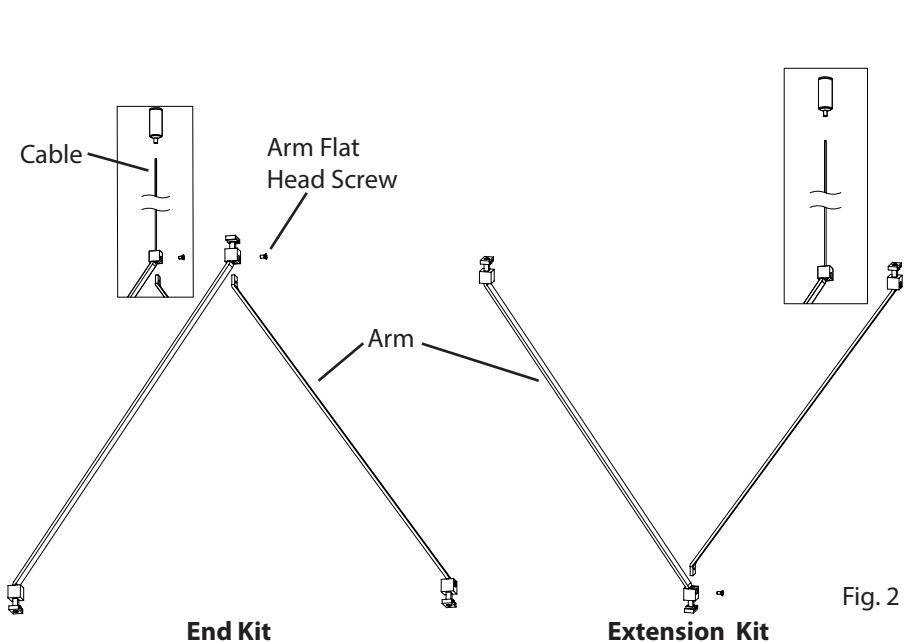
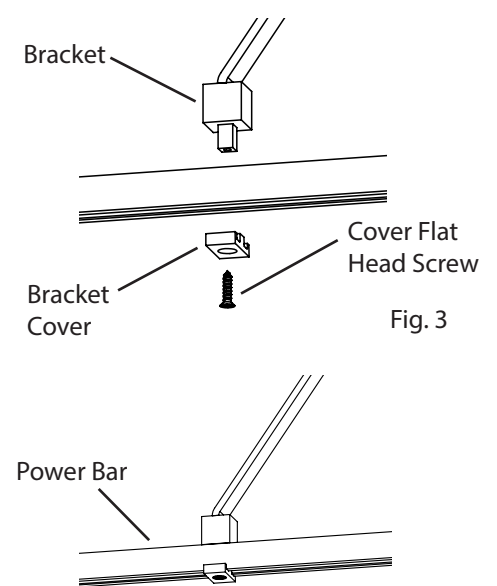

Fig. 2
Fig. 3
2. Insert Extension or End **Arm** into the remaining slot of the **Bracket** and secure it with the provided **Arm Flat Head Screw** (Fig. 2).
3. Where applicable: Insert the **Cable** into the **Post** and adjust to the desired length: to shorten, push the Cable up; to lengthen, push in the **Plunger** while pulling down on the Cable, release the Plunger to lock. Cut off the excess Cable where it exits the Post (Fig. 2).
4. Remove **Cover Flat Head Screw** and **Bracket Cover** and align **Power Bar** with the **Bracket** (Fig. 3).
2. Align **Power Bars** with **Hanger** (Fig. 2). Press down firmly on the top of the **Top Power Bar** and bottom of **Bottom Power Bar** until the Power Bars clicks into place. Reattach **Hanger Cap** with **Flat Head Screw** (Fig. 3).
1. Align **In-Line Connector** with **Power Bar** (Fig. 1) and press down firmly on the top of the Power Bars, while pressing up on the bottom of the Connector until the Power Bars clicks into place (Fig. 2).